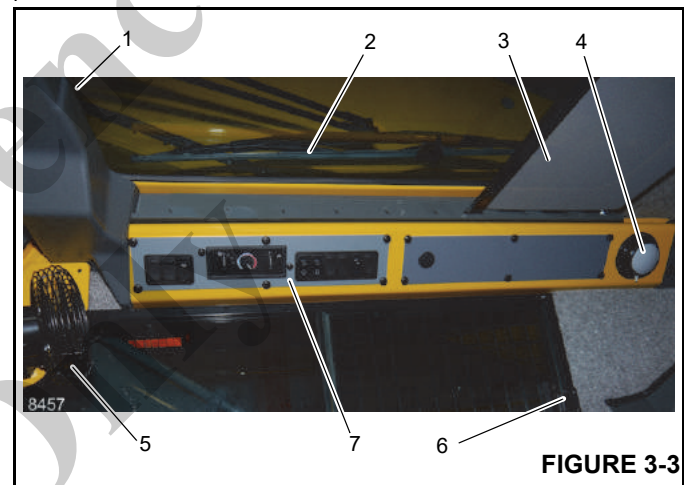
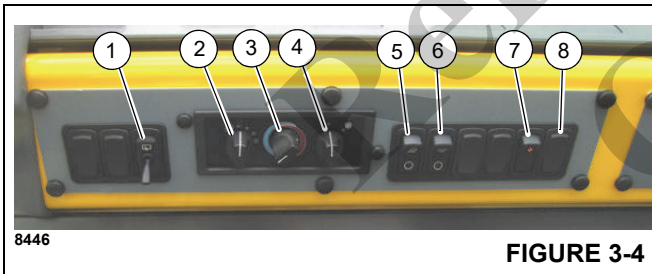

FIGURE 3-3
FIGURE 3-4
The Skylight Window Latch (1) Figure 3-3 is at the front of the window. Squeeze latch and slide window to the rear to open. To close, slide window forward until the latch engages.
The Skylight Wiper (2) (Figure 3-3) is controlled by the Skylight Wiper Switch, (4) (Figure 3-4), and operated by the Wiper Motor.
The Skylight Sunscreen (3) (Figure 3-3) reduces direct sunlight. The sunscreen is self retracting and can be set to screen all light or adjusted rearward by moving it to notches provided.
The cab Dome Light (4) (Figure 3-3) is on the right rear corner of the cab overhead console and provides illumination in the cab. The dome light is controlled by a switch on the light.
The Cab Circulating Fan (5) (Figure 3-3) is located on left front side of cab above the window frame. A swivel allows the fan to be rotated and a switch on the fan base controls the fan. The switch has a high, low and off position.
Window on the right side of the cab can be opened. Squeeze latch (6) (Figure 3-3) to release and slide forward. To close, slide window rearward until latch engages.
The electrically-operated Skylight Wiper is installed to remove moisture from the skylight. The Skylight Wiper is controlled by the Skylight Wiper Switch (1) Figure 3-4. This switch has 6 positions, including intermittent setting.
The Heater/Air Conditioner Fan Speed Switch (2) Figure 3-4 controls cab fan speed and volume of heated or cooled air output. Settings are off, low speed, medium speed, and high speed.
The Heater Control Switch (3) Figure 3-4 controls heating temperature. Turn switch right (clockwise) to open valve for heat. (Heat comes from heated fluid going through the heater coil.) Turn switch left (counterclockwise) to close the valve, reduce fluid flow, and minimize heat.
The Air Conditioning Switch (4) Figure 3-4 controls the optional air conditioning system. Settings are Off (O) and On (I).
The Work Lights Switch (5) Figure 3-4 controls work lights mounted on bottom front of the superstructure cab. Press top of switch to turn work lights on. Press bottom of switch to turn work lights off.
The Crane Function Power Switch (7) Figure 3-4 is located on the overhead control panel. This spring return switch permits the operator to activate all crane functions at once or disconnect power from crane functions controlled by the remote controllers on the armrests. Pressing it turns ON all crane functions. Pressing a second time turns OFF all crane functions. Turn off all crane functions to prevent inadvertent operation of functions due to bumping controllers while roading or any other operation.
The Engine DPF (Diesel Particulate Filter) Switch (8) Figure 3-4 is located on the right side of the overhead control panel. This is a three position switch: Inhibit Cleaning/Permit Active Cleaning/Initiate Manual Cleaning. Center position enables clean to occur when required, or press this switch to force manual cleaning to begin immediately or to disable cleaning indefinitely:
The Inhibit Exhaust System Cleaning Indicator (25) is located in the CCS display Figure 3-14. When the Cleaning Switch (8) Figure 3-4 is in the exhaust system cleaning position, this amber indicator is illuminated and active and manual exhaust system cleaning is prevented.